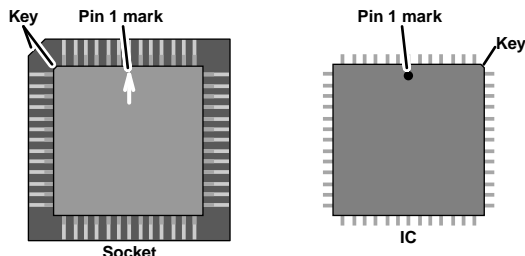

Figure 44 — Key and pin 1 mark
7. Note the key (angled corner) of the new firmware IC and the dot on the underside that indicates pin 1 (figure 44). Orient the IC to match the key and pin 1 (indicated by arrow) on the socket, and carefully press the IC in place.